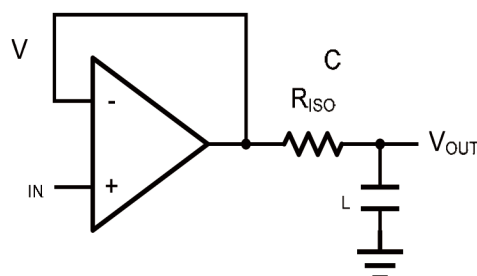
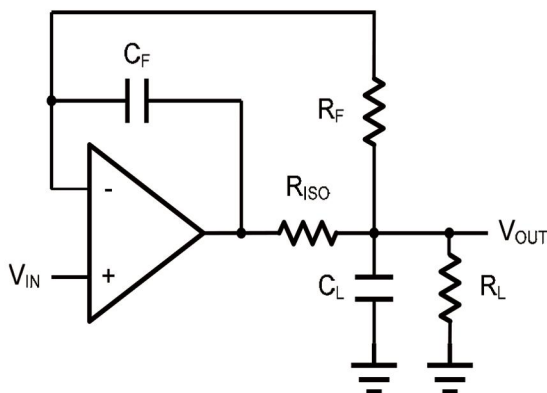

Figure 2 Indirectly Driving a Capacitive Load Using Isolation Resistor
Figure 3. Indirectly Driving a Capacitive Load with DC Accuracy
The AD8542ARZ family is optimized for bandwidth and speed, not for driving capacitive loads. Output capacitance will create a pole in the amplifier's feedback path, leading to excessive peaking and potential oscillation. If dealing with load capacitance is a requirement of the application, the two strategies to consider are (1) using a small resistor in series with the amplifier's output and the load capacitance and (2) reducing the bandwidth of the amplifier's feedback loop by increasing the overall noise gain. Figure 2 shows a unity gain follower using the series resistor strategy. The resistor isolates the output from the capacitance and, more importantly, creates a zero in the feedback path that compensates for the pole created by the output capacitance.
The circuit in Figure 3 is an improvement to the one in Figure 2. R_F provides the DC accuracy by feed-forward the V_{IN} to R_L . C_F and R_{ISO} serve to counteract the loss of phase margin by feeding the high frequency component of the output signal back to the amplifier's inverting input, thereby preserving the phase margin in the overall feedback loop. Capacitive drive can be increased by increasing the value of C_F . This in turn will slow down the pulse response.